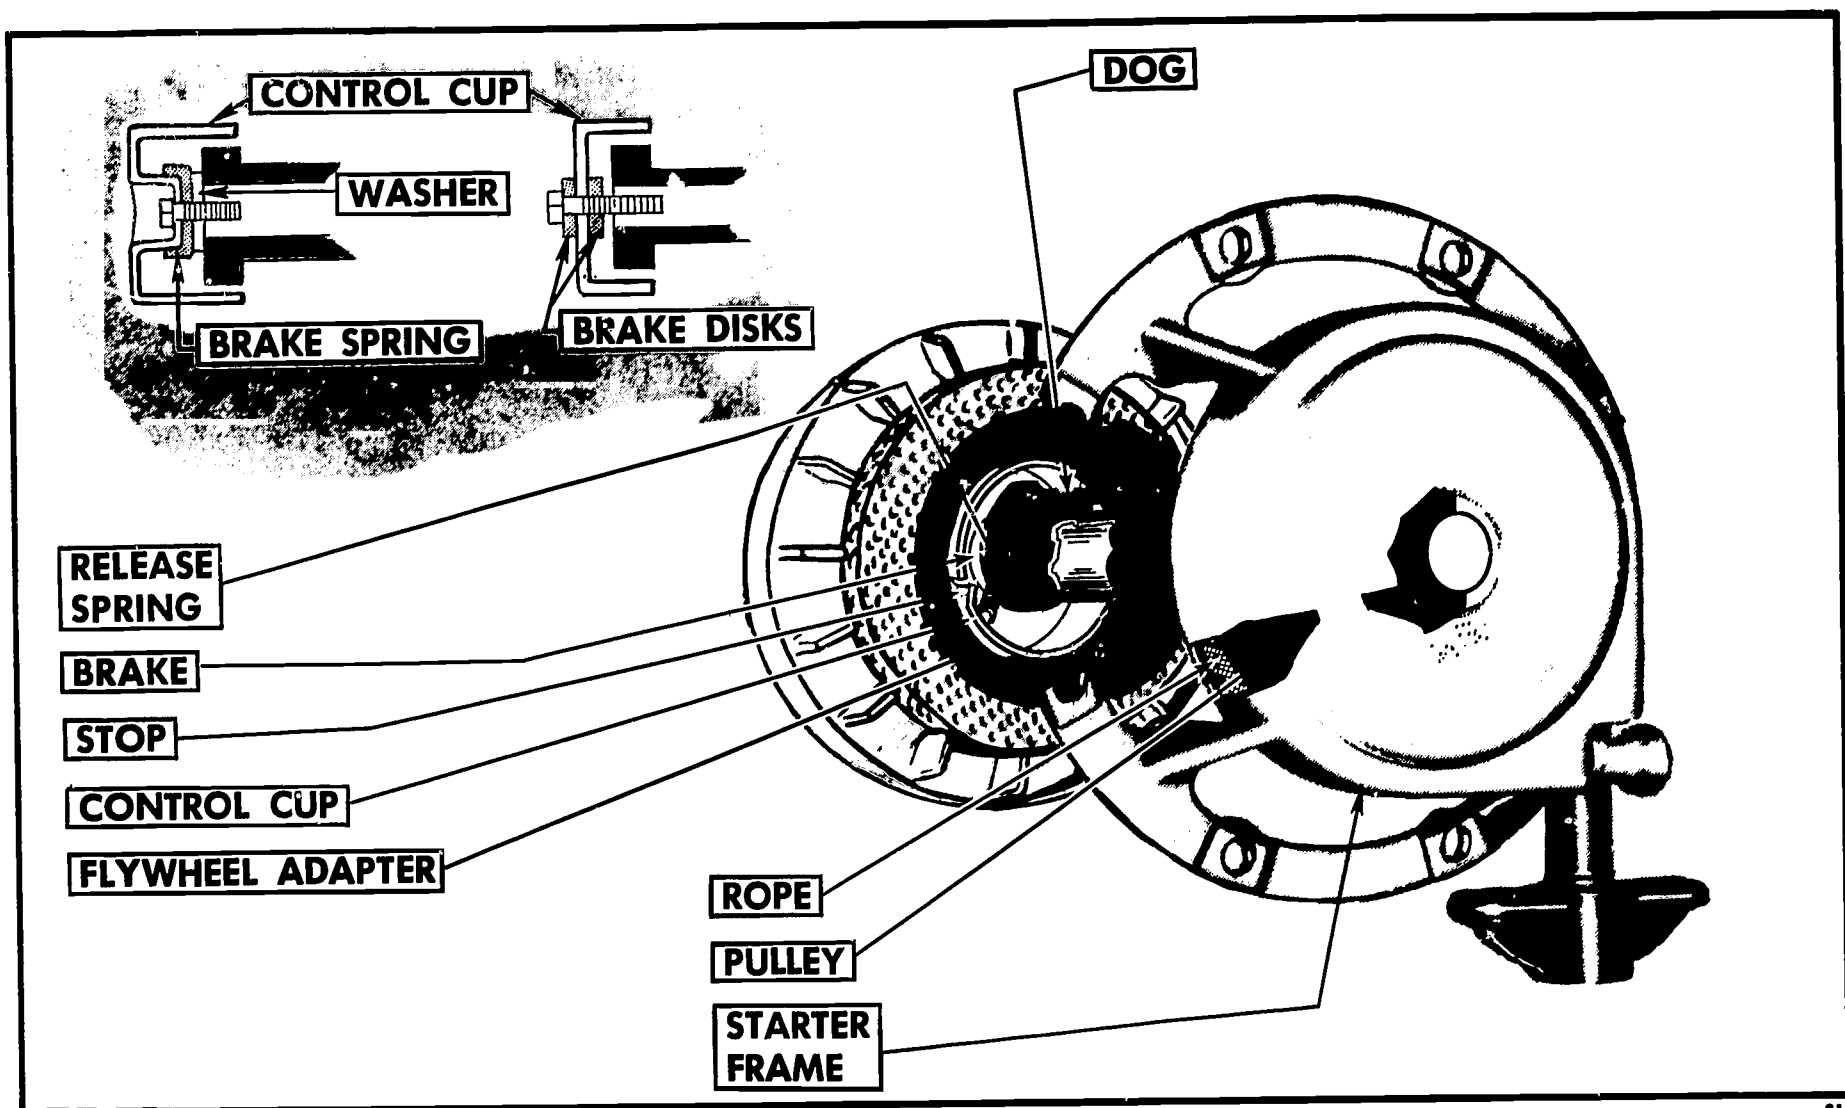

FIGURE 29. Cam-operated dog drive.
- Cam-operated dog(s) (Figure 29) —
The brake is attached to the starter frame at one end, and the brake shoe exerts pressure on the control cup. The friction is provided by brake disks or a spring clamp (Figure 29).